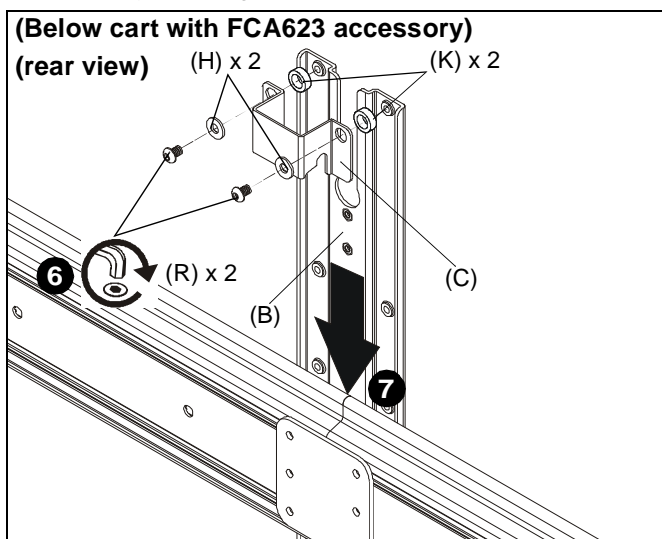

Figure 9
- Use two 1/4-20 x 7/16" button head cap screws (R), two large washers (H) and two 3/5" spacers (K) to secure shelf bracket (C) to main bracket (B). (See Figure 9)
- Slide main bracket (B) onto front of cart/ceiling mount head assembly until shelf bracket (C) rests on top of head assembly. (See Figure 9)